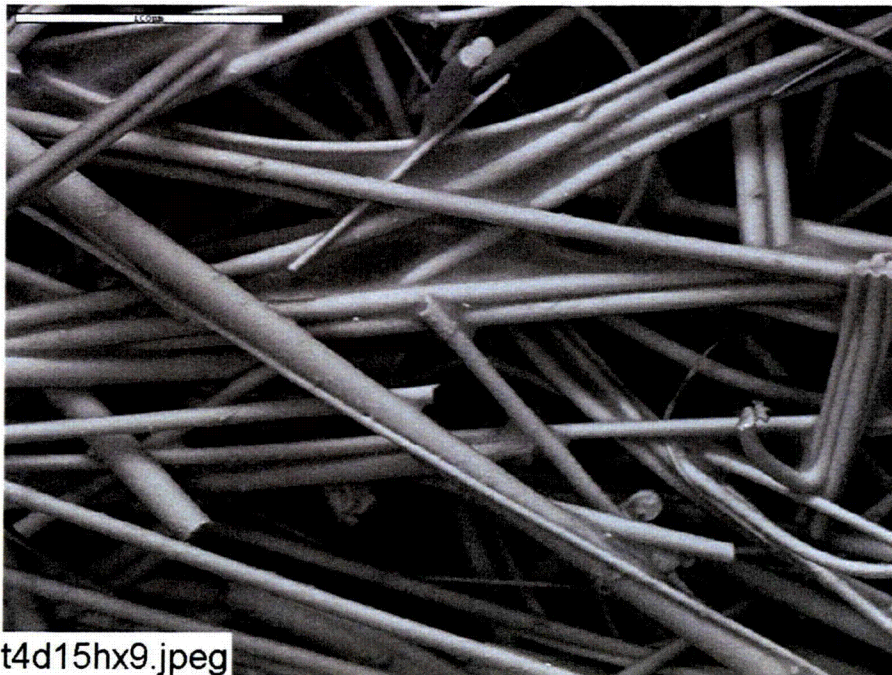

Figure B2-2. Environmental SEM image magnified 400 times for a Test #4, Day-15 exterior high-flow fiberglass sample. (t4d15hx9.jpeg)
- Figure B2-2. Environmental SEM image magnified 400 times for a Test #4, Day-15 exterior high-flow fiberglass sample. (t4d15hx9.jpg)..... B2-4